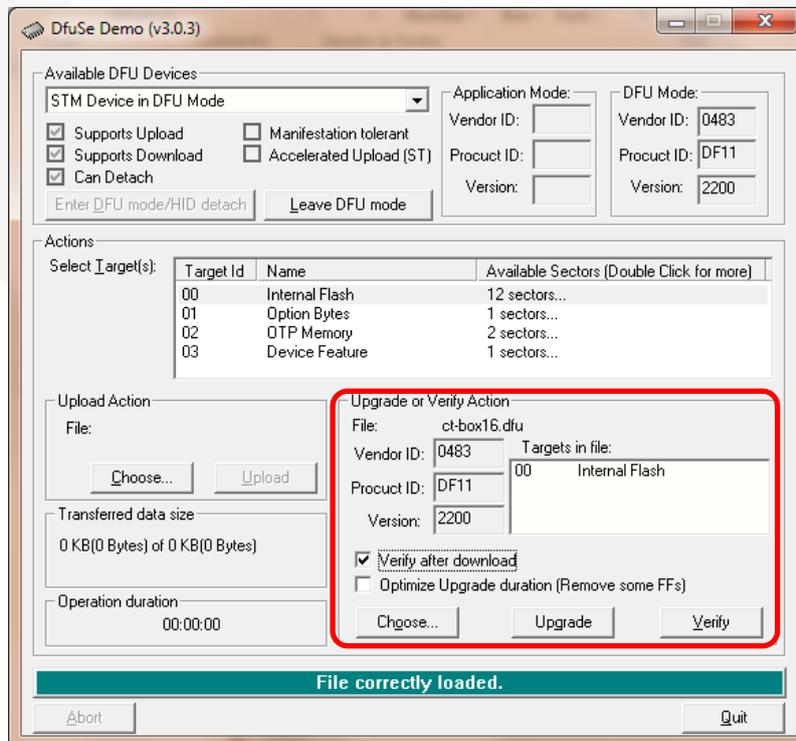

Figure 15: DfuSe Upgrade setup.
- Under **Upgrade or Verify Action** (Figure 15), click on “Choose” and select the new firmware file (.dfu) to be downloaded into the CT-BOX:
- Check the box “*Verify after download*” (Figure 15) and click “Upgrade”;